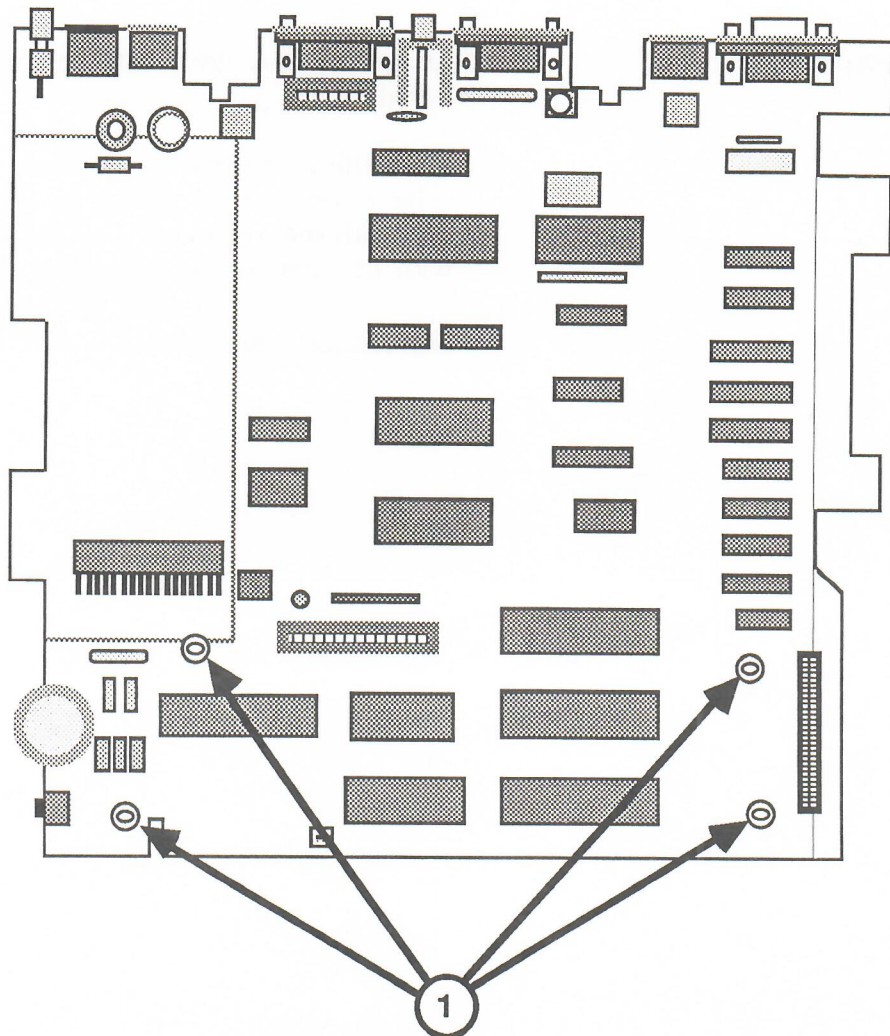

FIGURE 2
3. Using the needlenose pliers, squeeze each of the four nylon clips securing the Memory Expansion Card to the stand-offs (see Figure 2, #1), and simultaneously lift the edge of the board nearest that stand-off. Start with the stand-off in the upper-left corner of the board and work counter-clockwise. To avoid causing damage to the printed circuit board, hold the pliers straight up.